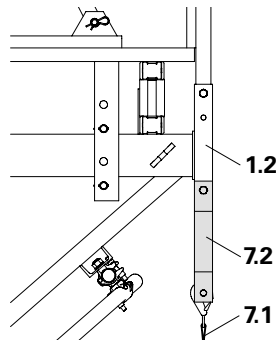

Fig. B1.32
2. Mount Tension Belt (7.1) to the bolts using the end of the belt without turn-buckle. (Fig. B1.32)